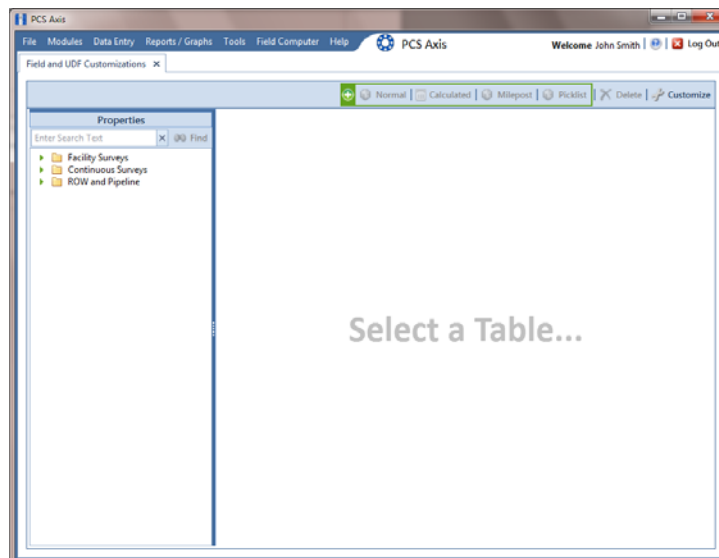

Figure 3-23. Field and UDF Customizations
- 1 Click **Tools > Field and UDF Customizations** to open the *Field and UDF Customizations* window (Figure 3-23).